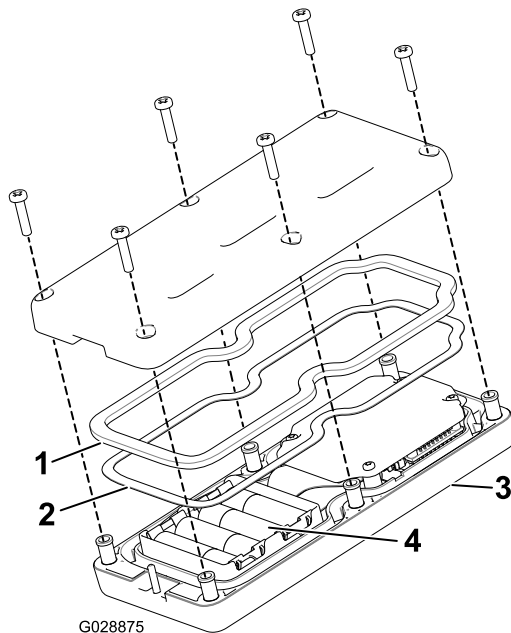

Figure 18
2. Install the batteries into the terminal cradle observing proper polarity. (If the batteries are improperly installed, the unit will not be damaged, but it will fail to operate.) The cradle is embossed with polarity markings for each terminal (Figure 18).
4. Secure the cover with 6 screws (Figure 18) and torque them to 1.5 to 1.7 N·m (13 to 15 in-lb).
3. Ensure that the steel gasket and rubber seal are seated in the channel in the remote and set the back cover in place (Figure 18).